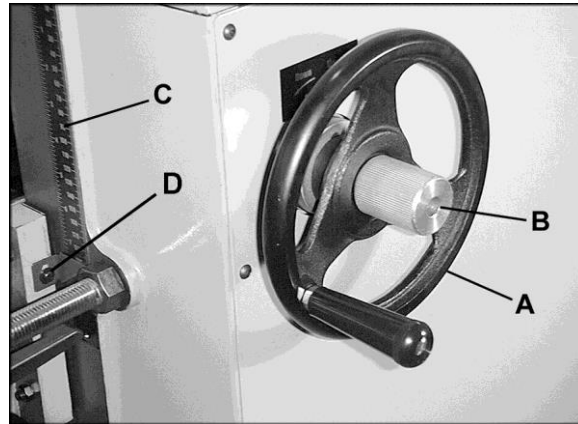

Figure 4
Depth of cut is controlled by raising or lowering the table. This is done by using the handwheel (A), shown in Figure 4.
1. Loosen the lock knob (B, Figure 4).
2. Raise or lower the table to the desired position (clockwise to raise). One revolution of the handwheel equals 1.59mm (1/16"). The distance can be read on the scale (C, Figure 4).
3. Retighten lock knob (B, Figure 4).
4. The pointer (D, Figure 4) can be adjusted slightly if the scale should ever need recalibrating.